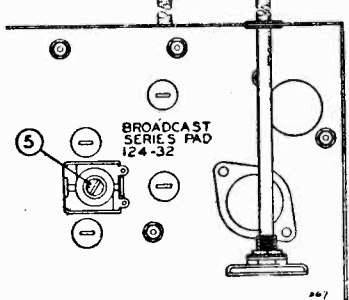

FIG. 3—BOTTOM VIEW
- (b) Re-set external oscillator to 600 K.C., and adjust broadcast series pad (adjustment number 5), to resonance by rotating condenser to approximately 600 K.C., rocking it slowly to and fro until by adjusting series pad maximum output is attained. This adjustment is located on the bottom of the chassis directly under the variable gang condenser. (See bottom view of chassis; Fig. 3).